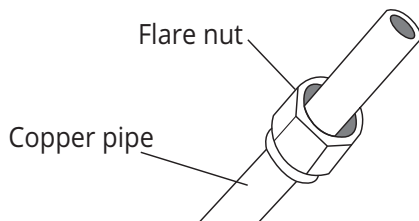

Fig 7.3
3. Place flare nuts on both ends of pipe. Make sure they are facing in the right direction, because you can't put them on or change their direction after flaring. See Fig. 7.3.